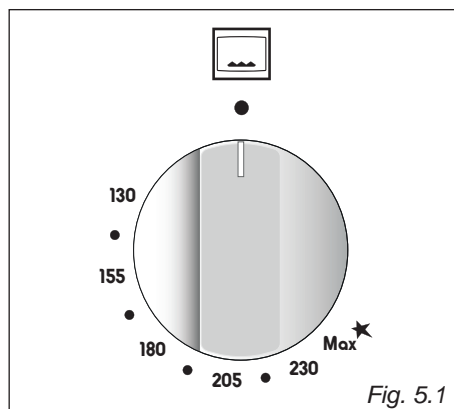
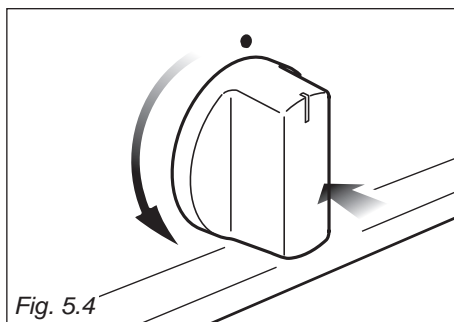

Fig. 5.1
Fig. 5.4
2. Lightly press and turn the thermostat knob anti-clockwise (fig. 5.4) to max position **Max**★ (fig. 5.1). Press the knob firmly until the burner lights.